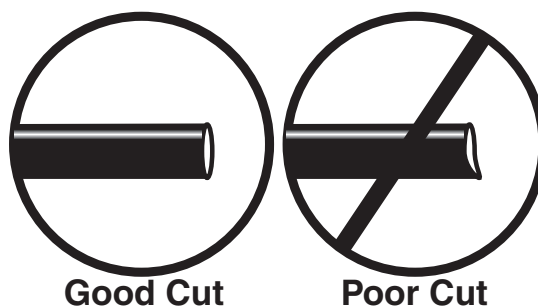

fig. 10
WHEN CUTTING OR TRIMMING THE AIR LINE, USE A HOSE CUTTER, A RAZOR BLADE, OR A SHARP KNIFE. A CLEAN, SQUARE CUT WILL ENSURE AGAINST LEAKS. DO NOT USE WIRE CUTTERS OR SCISSORS TO CUT THE AIR LINE. THESE TOOLS MAY FLATTEN OR CRIMP THE AIR LINE CAUSING IT TO LEAK AROUND THE O-RING SEAL INSIDE THE ELBOW FITTING (FIG. 10).
7. Cut off the air line, leaving approximately 12" of extra air line. A clean square cut will ensure against leaks (see fig. 10). Insert the air line into the air fitting. This is a push-to-connect fitting. Simply push the air line into the 90° swivel fitting until it bottoms out (9/16" of air line should be in the fitting).
- a. Check the air line connection by deflating the spring and removing the line by pulling the collar against the fitting and pulling firmly on the air line. Trim 1" off the end of the air line. Be sure the cut is clean and square (see fig. 10). Reinsert the air line into the push-to-connect fitting.